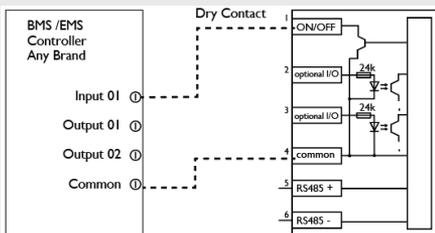

FIGURE 4
- BMS Compatible Status Output (On/Off Pin 1)**, See Figure 4. The status output is connected to the input of a BMS controller that is setup to detect a dry contact. When the unit is operating, the BMS will receive an On status.